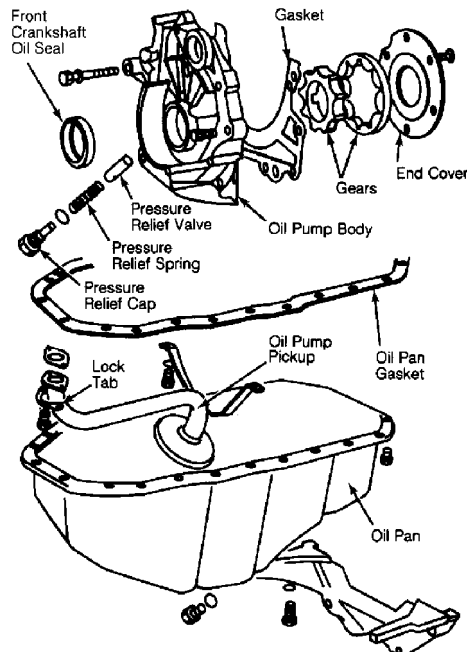

Fig. 7: Oil Pump, Pick-Up & Pan
3) Remove lower timing belt cover. Ensure crankshaft position has not changed. Remove damper/pulley from crankshaft with drive sprocket attached. Remove dipstick. Drain engine oil and remove oil pan. Remove oil suction tube from oil pump. Remove oil pump. See Fig. 7.